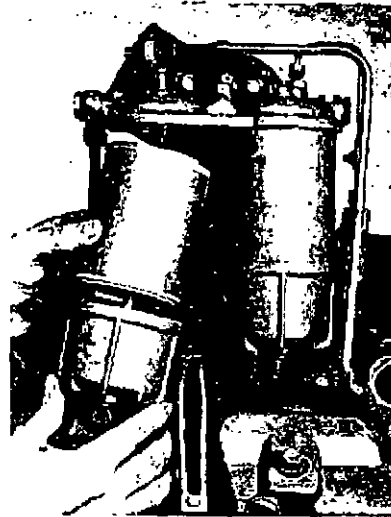

Fig. 18
- (b) Holding each filter bowl in turn, unscrew the setscrews securing the filter elements and remove the filter elements and bowls (see Fig. 18).